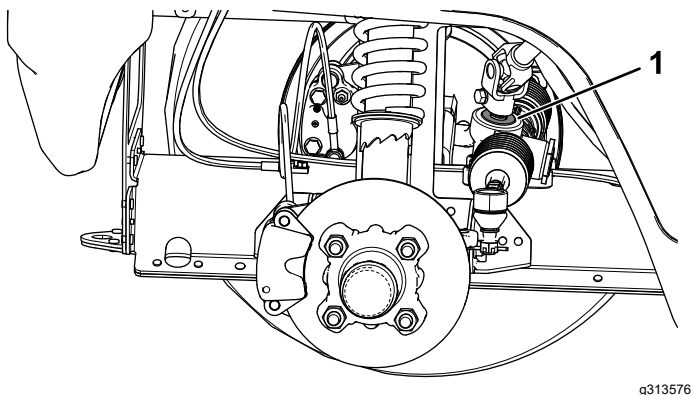

Figure 52
- Important:** Inspect the condition and security of the pinion-shaft seal (Figure 52).